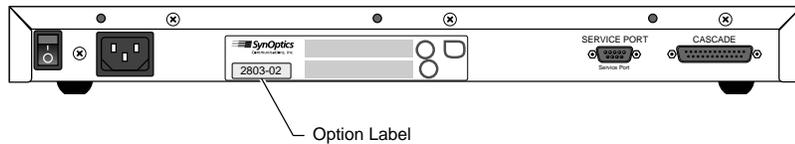

Figure 4. Option Label
3. **Attach the new option label to the front panel of the concentrator (see Figure 4).**